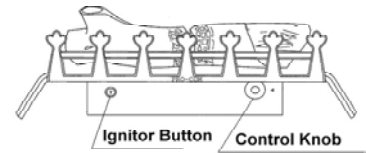

Figure 27-Control Knob and Ignitor Button Location
4. Wait five (5) minutes to clear out any gas. Then smell for gas, including near the floor. If you smell gas, STOP! Follow "B" in the safety information. If you don't smell gas, go to the next step.
5. Slight depress and turn Control knob counterclockwise  to the PILOT position. Press in control knob for five (5) seconds (see Figure 27).